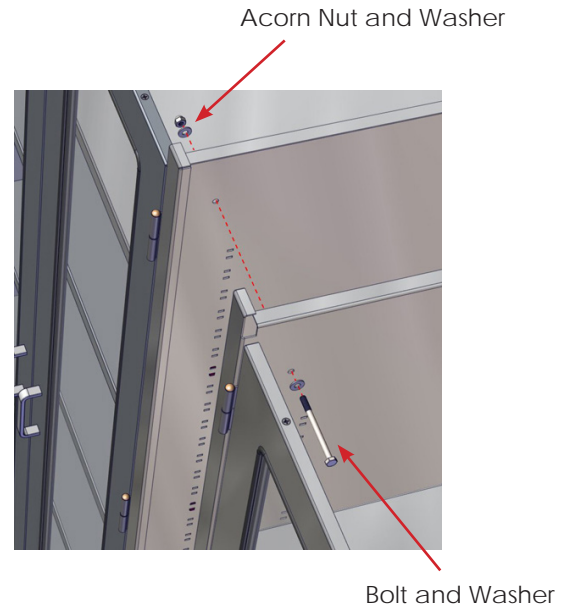

Fig. 30: Attaching Banked Cabinets/
8. Insert a 1/4" bolt and one washer through one of the top front connection holes until it protrudes from the other cabinet. Secure with the washer and acorn nut. Repeat with the center front and bottom front connection holes (Fig. 30).